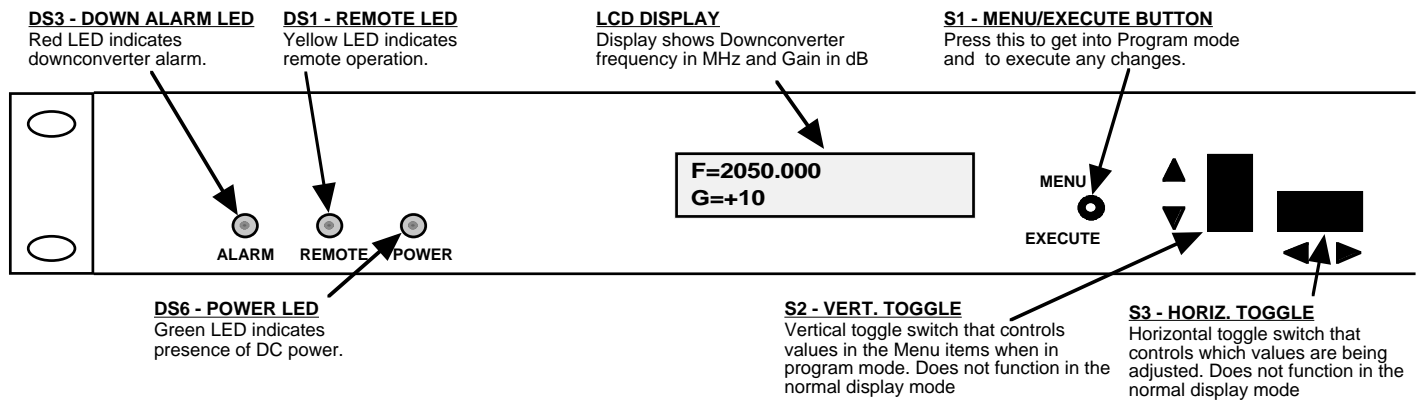

FIGURE 2.3 2016-12 Front Panel Controls and Indicators
- 6.) Be sure DS6 (green, DC Power) is on and DS2 (red, Alarm) is off (Figure 2.3).